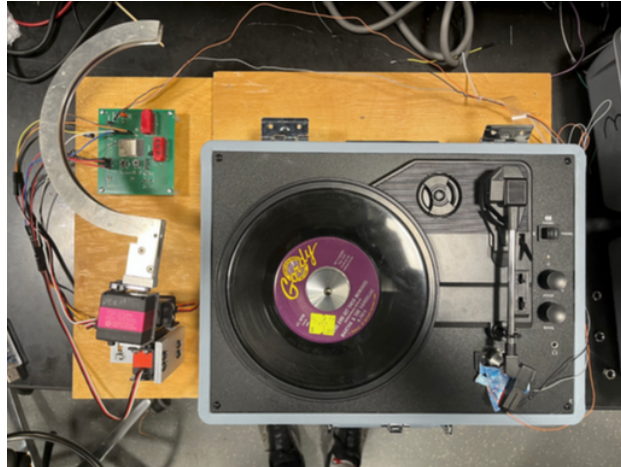

Figure 2: Enter Caption
- **Figure 2:** Completed prototype on Crosley turntable